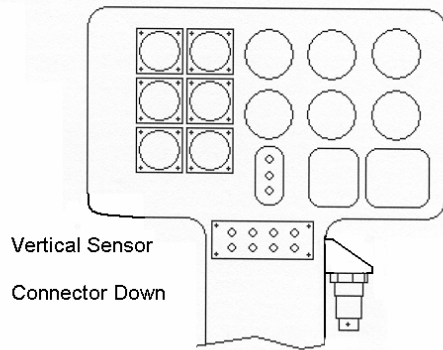

Figure 3
3. Install Vibe Sensor Mount with 1/4-inch hole (Item 7) on the right hand side of the pedestal. Install 991D-1 Sensor (Item 2) into the Mount, **ensure connector end of transducer faces down.** (Figure 3)